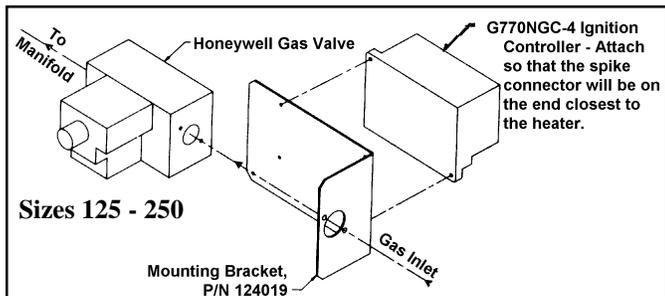

Figure 4 - Assemble Ignition Controller and Bracket; attach to the already-installed Honeywell Gas Valve
2.) **Sub-Assemble Bracket and Ignition Controller** (See Figure 4) – Position the controller on the large flat surface of the “outside” of the bracket **with the spike terminal for the ignitor wire toward the end of the bracket without the flange**. Align the Model G770NGC-4 controller with the holes and attach with two 5/8" long screws. (The bracket which is designed to fit more than one type of controller has several sets of holes.)
3.) **Attach Sub-Assembly to Valve** (See Figure 4) – Position the assembled bracket and ignition controller with the bracket flange at the inlet side of the gas valve and the controller running parallel on the right side of the valve. Attach the bracket to the inlet side of the gas valve using the two 1/4" long #8-32 screws.